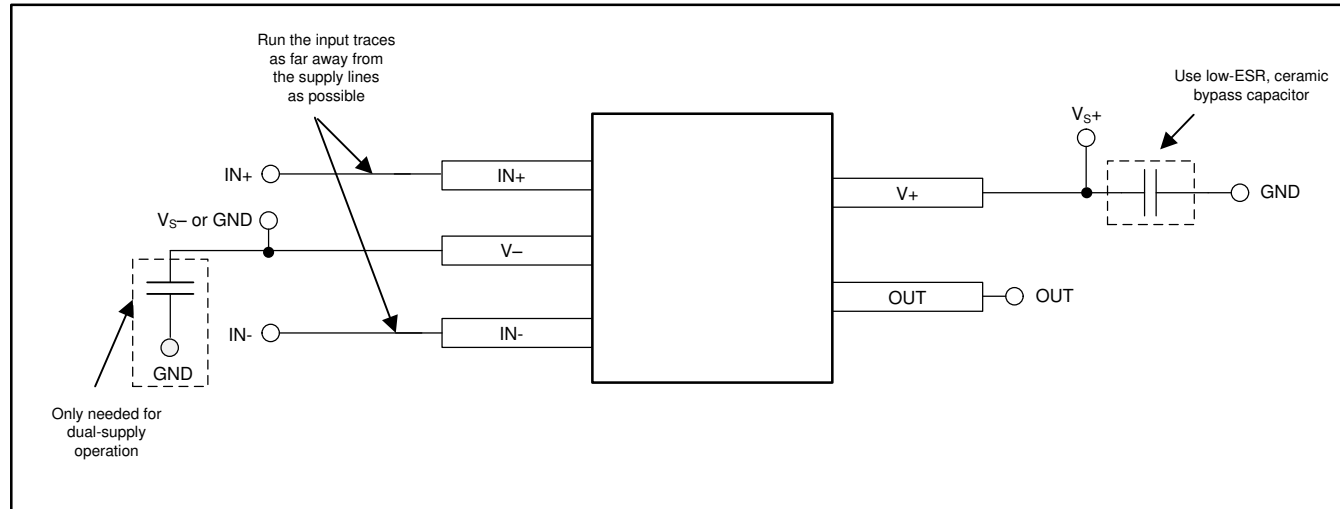

Figure 22. Comparator Board Layout
- To minimize supply noise, place a decoupling capacitor (0.1- $\mu$ F ceramic, surface-mount capacitor) as close as possible to  $V_S$  as shown in Figure 22.